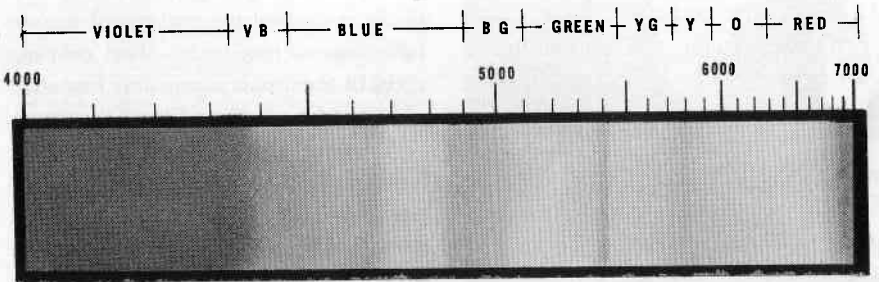

Figure 9
*Figure 9* illustrates the absorption